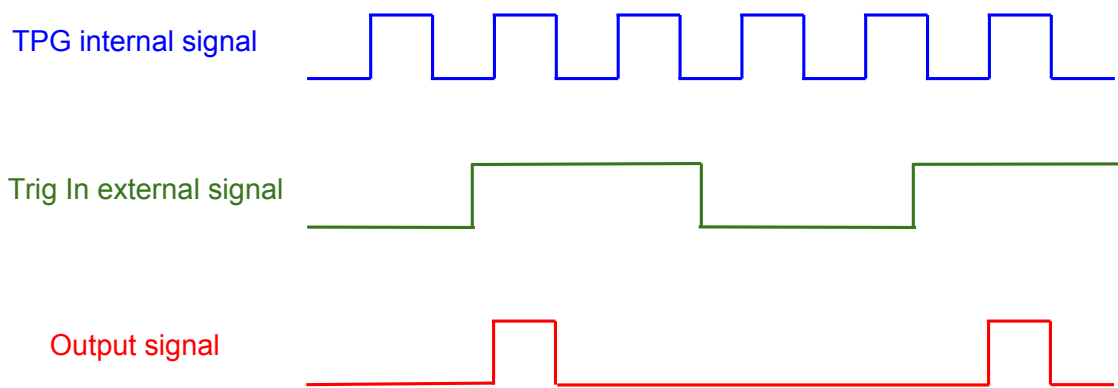

Figure 5.6.: TPG *Trig IN* external mode signal.
- the output generated with the **Trig IN** is a single pulse for a rising signal, as shown in figure 5.6.